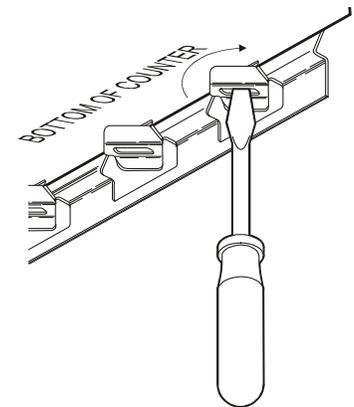

Fig. 3 Set the Wellsloks
- b. After installation, verify that the tabs on the Wellsloks are turned out to lock the broiler into the counter (see Fig. 3).